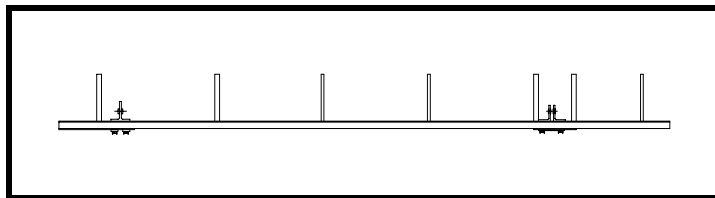

Figure 1
- ❑ Install all leading edge ribs. On the rib above the upper hinges, be sure to observe the 80mm dimension so that you have sufficient room to remove the hinge bolt. See Drawing No. 411. See Figure 1. Scuff-sand the plywood before gluing.